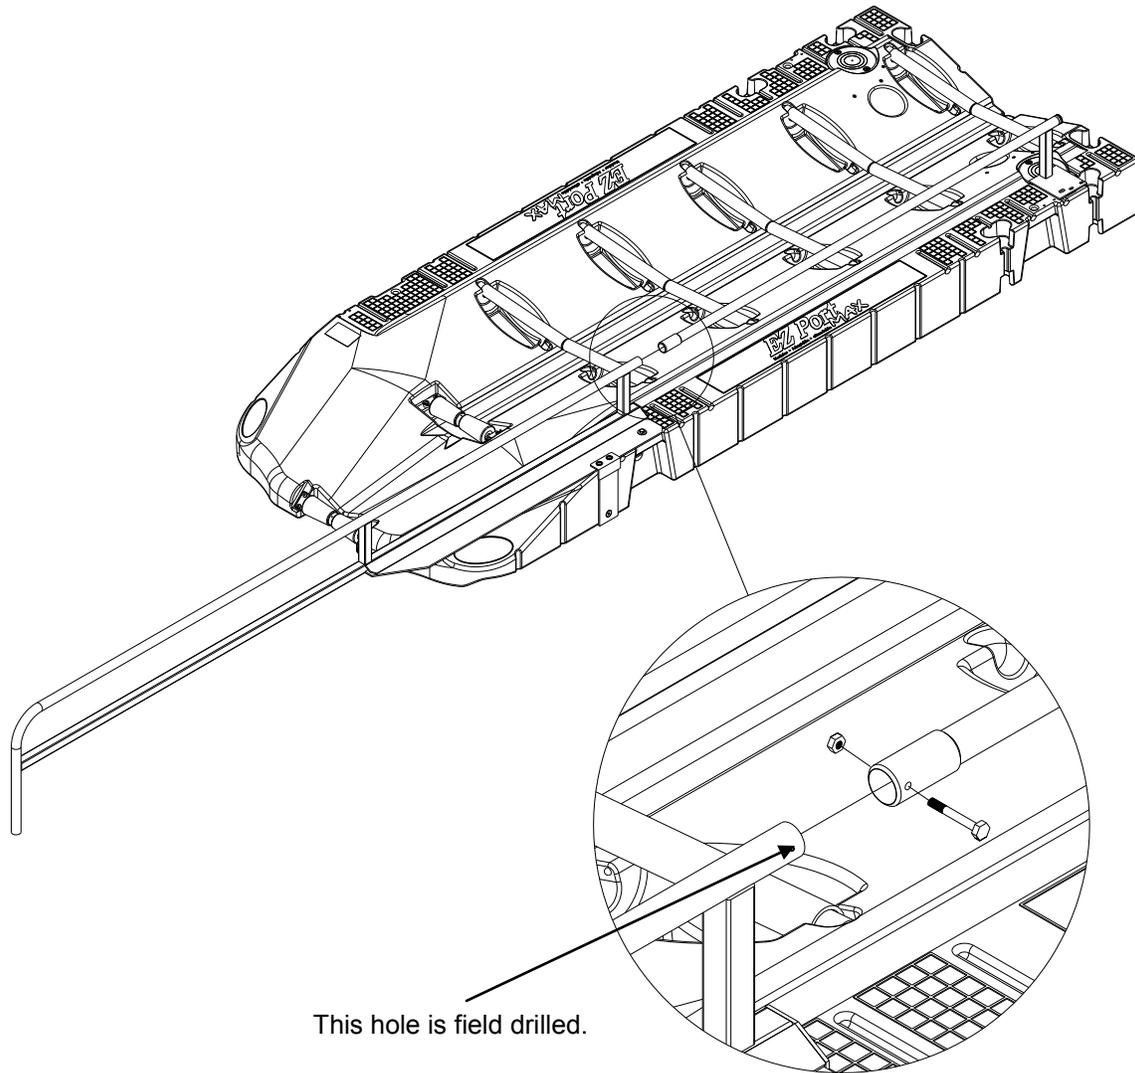
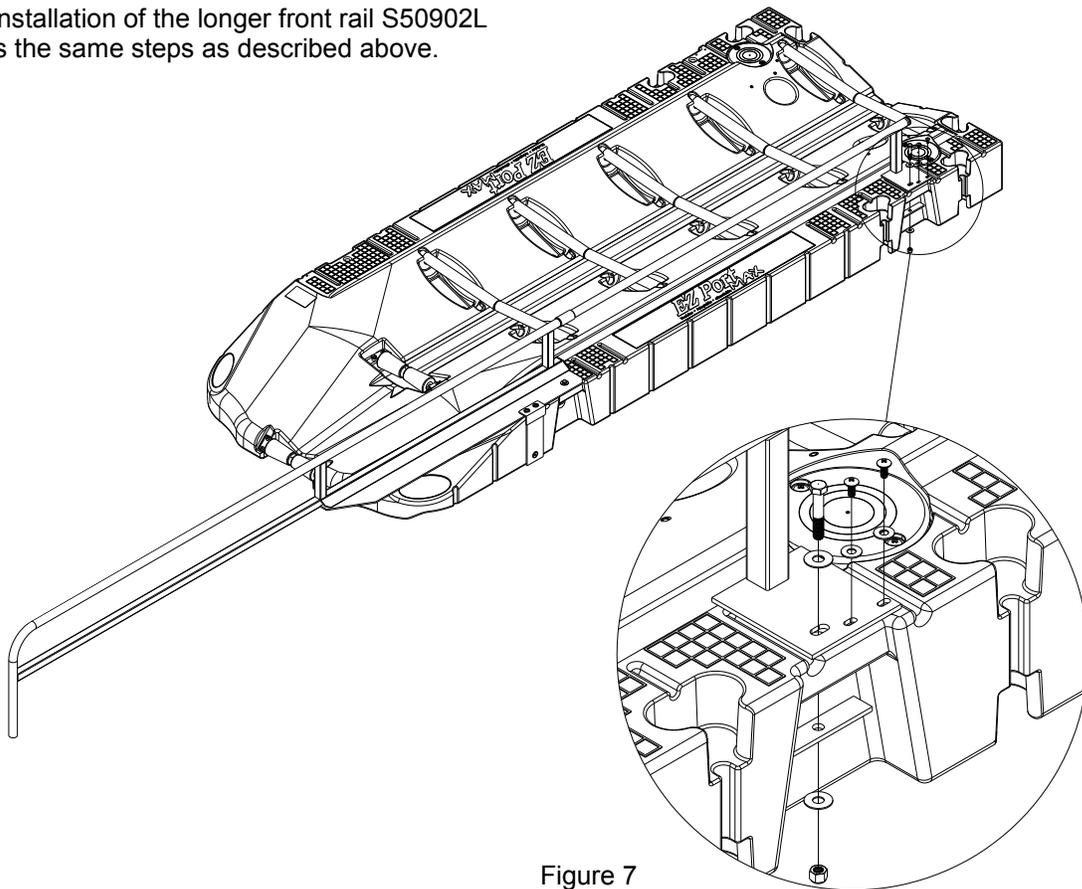

Figure 6
Figure 7
Note: There are two front rails of different length. Installation of the shorter front rail S50901R is illustrated below. The shorter front rail allows access to the port. **The flange on the front rails always faces away from the center of port. (see Figure 7).** The front and rear handrail portions attached with a 5/16"-18- 1-3/4" hex head bolt. This hole in the rear handrail will need to be drilled in the field after the handrails are attached to the port and leveled (see Figure 6).
- Align front rail S50901R to slip over entry rail S50903R. Slide into position as shown in Figure 6.
- Place a 1/2" washer on a 1/2-13 x 2 3/4" hex head bolt and insert it through the large slotted hole on the rail assembly and larger hole in the port. (Figure 6)
- Next, place the rectangular reinforcing plate S50912 over the bolt (on the bottom) followed by a 1/2" washer and 1/2" locknut. (see Figure 7)
- Install (2) 3/8" washers on (2) 5/16-18 x 3/4 truss head Phillips screws and finger tighten bracket in place.